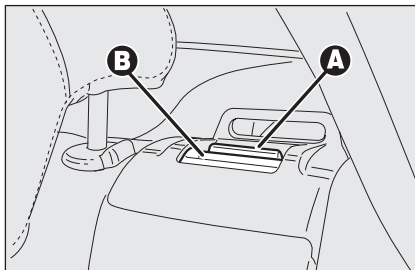

fig. 6
- lift seat back lever **A-fig. 6** to unlock respectively the left or right section of the backrest and tilt the seat back forward. Lever raising is indicated by a "red band" **B**.
IMPORTANT When the backrest is properly secured, the “red band” **B**-**fig. 6** on levers **A** shall no longer be visible. The “red band” actually indicates that the backrest is not properly secured. Make sure the head restraints are properly positioned.